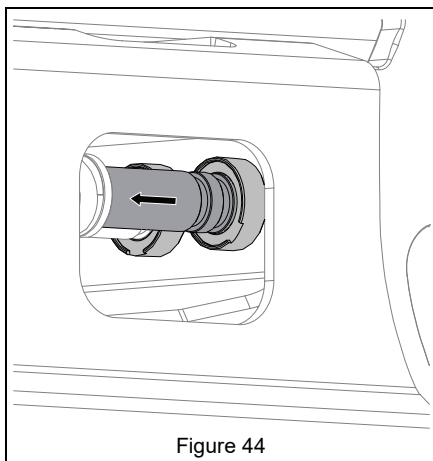

Figure 44
4. Continue to screw in inner and outer large set screws simultaneously to push spring pusher forward so that second locking groove on spring pusher is past spring seat. See Figure 44.